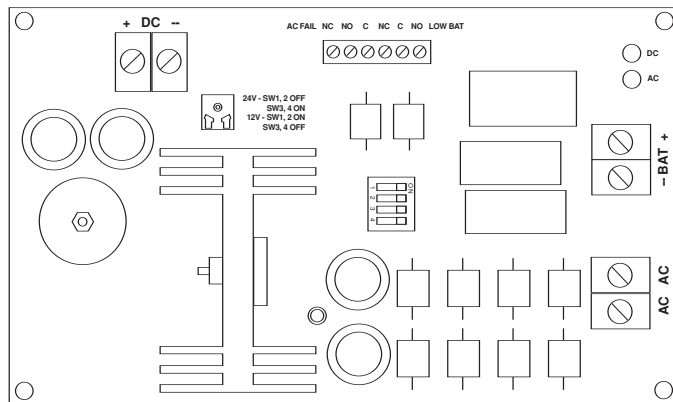

Fig. 1
- Connect 28VAC / 175VA transformer to terminals marked [AC, AC], (Fig. 1).
4. Connect devices to be powered to terminals marked [+ DC -] (Fig. 1).
6. For Access Control applications, batteries are optional. When batteries are not used a loss of AC will result in the loss of output voltage. When the use of stand-by batteries is desired, they must be lead acid or gel type. Connect battery to terminals [- BAT +] (Fig. 1) as marked on the unit (battery leads included). Use two (2) 12VDC batteries connected in series for 24VDC operation.
7. Connect supervisory trouble reporting devices to outputs marked [LOW BAT, AC FAIL] supervisory relays marked [N.C., N.O., C] (Fig. 1). Use 22 AWG to 18 AWG for AC Fail & Low Battery reporting.